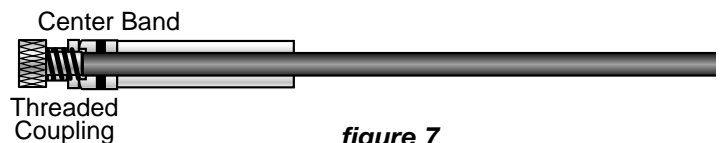

figure 7
- 6) The remaining center band on certain pens still must be removed. Take one of the threaded couplings from step 4 and screw it into the center band. Next twist the Cap Screw "C" into the center band. Insert the shaft into the opposite end of the barrel (Figure 7). Hold the barrel tightly in your fist while tapping on the end of the shaft with a hammer. Sharp forceful taps will dislodge the Cap Screw with the center band and coupling.